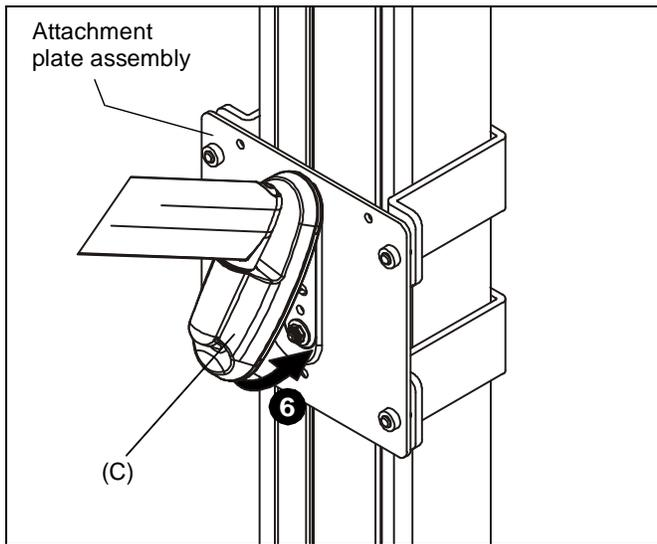

Figure 4
- Swing height-adjust assembly (C) down flush against attachment plate assembly. (See Figure 4)